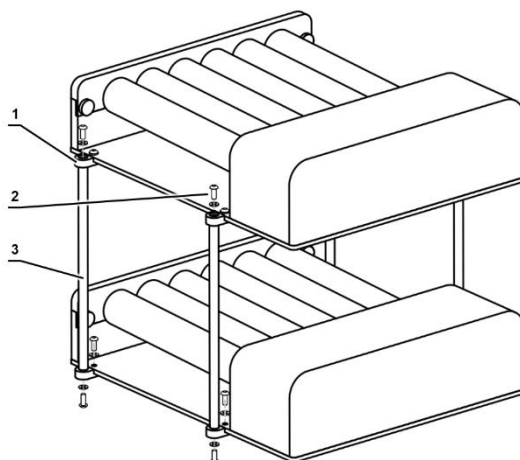

Figure 2. Stacking kit installation
4.4.4. Stacking two units (figure 2).
- Lock the bracket parts (fig. 2/1) with hex screws and flat washers (fig. 2/2) in 4 positions on the base plate for each stacking unit.
- Insert the connecting rod (fig. 2/3) on the bottom bracket and secure it tightly with a hex screw and a lock washer. Repeat for other connecting rods.